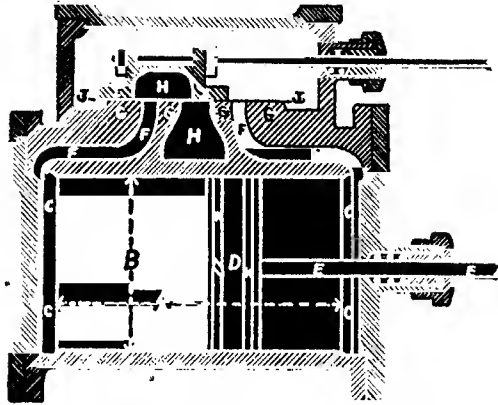

FIG. 36.—ENGINE CYLINDER AND VALVE.
• **The Cylinder and Steam Chest.**—The cylinder (Fig. 36) is the part in which the steam is converted into power, by imparting a reciprocating motion to the piston contained within it. It is made slightly longer than the stroke of the